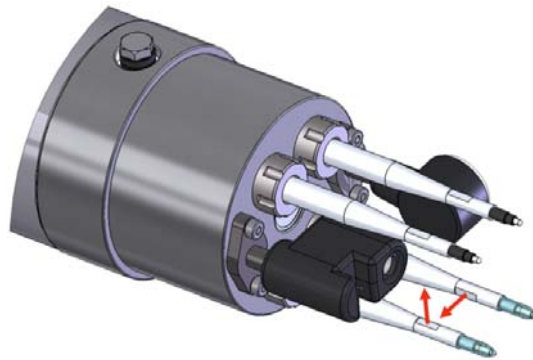
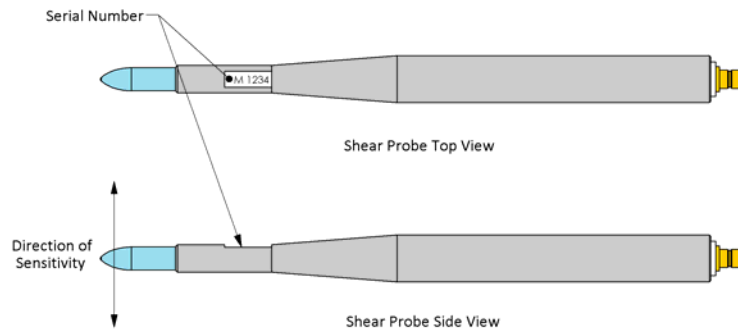

Figure 24: Orthogonal alignment of the shear probes.
Figure 25: Shear probe direction of sensitivity.
3. As you tighten the probe holders, ensure that the shear probes are oriented correctly (Figure 24). Typically, one shear probe is aligned with the instrument's x-axis (through the magnet), and the other with its y-axis (Figure 2). The sensitivity on a shear probe is in the direction normal to the flat section of the sensor's serial number (Figure 25).
4. In your deployment notes, record the serial numbers (Figure 25) of the microstructure sensors you have installed in each port. If possible¹⁰, update your configuration file with